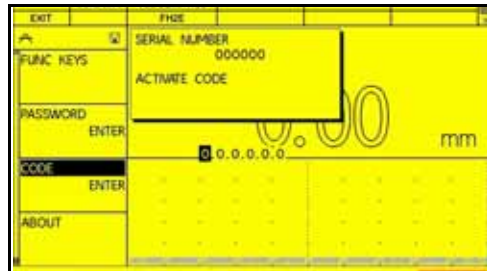

Figure 18: The Code Entry Function
2. Use the joystick () to select the function titled CODE, and then use the joystick () to activate the function. Note that the first character of the current code value is highlighted (*Figure 18* below).